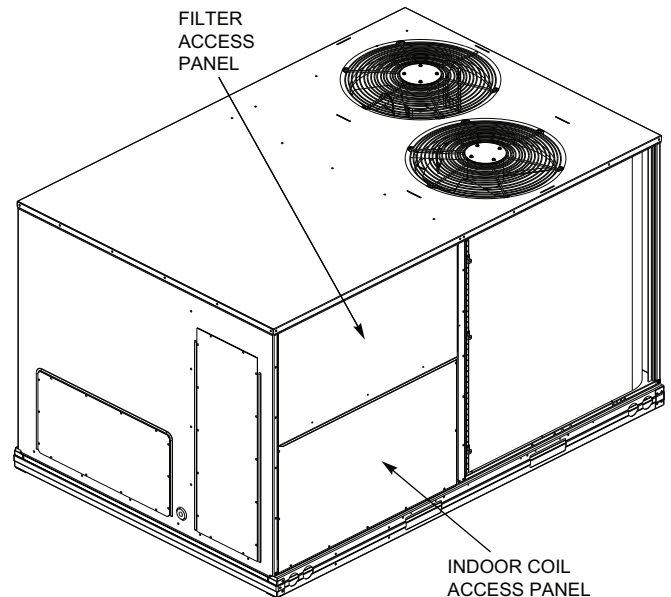

Fig. 10 — Access Panel Locations
2. To gain access to the hood, remove the filter access panel. (See Fig. 10)